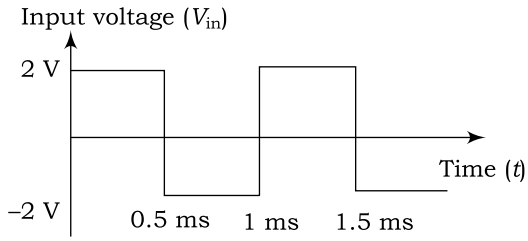

Fig. 7.108
29. When a square wave, as shown in Fig. 7.108, is applied as input voltage to an integrator circuit, find out the output voltage. Assume $RC = 1$ second.